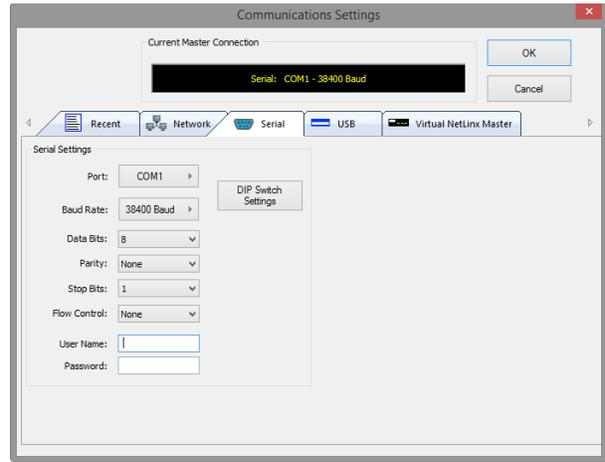

FIG. 3 NETLINX STUDIO - COMMUNICATIONS SETTINGS DIALOG (SERIAL OPTIONS)
- Select **Settings > Active System Communication Settings** to open the *Communications Settings* dialog (FIG. 3):